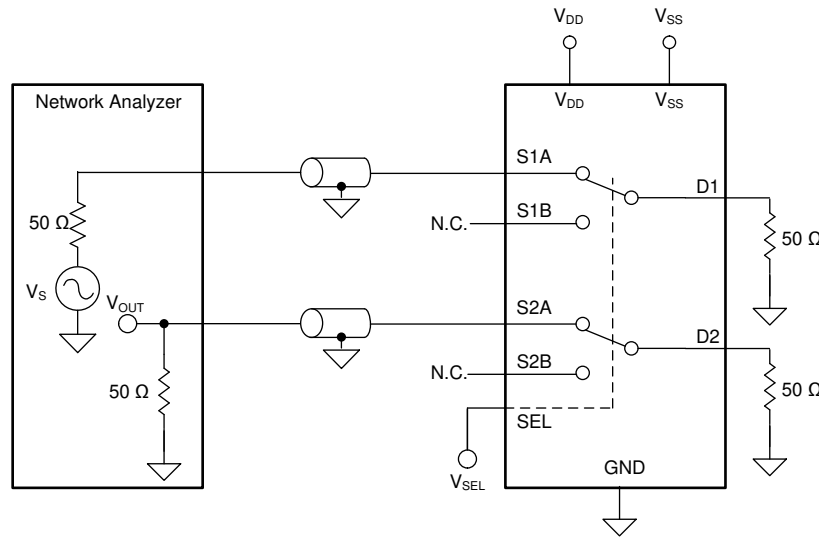

Figure 7-9. Inter-Channel Crosstalk Measurement Setup
2. Inter-channel crosstalk: the voltage at the source pin (S_x) of an on-switch input, when a 1-V_{RMS} signal is applied at the source pin of an on-switch input in a different channel, as shown in Figure 7-9.